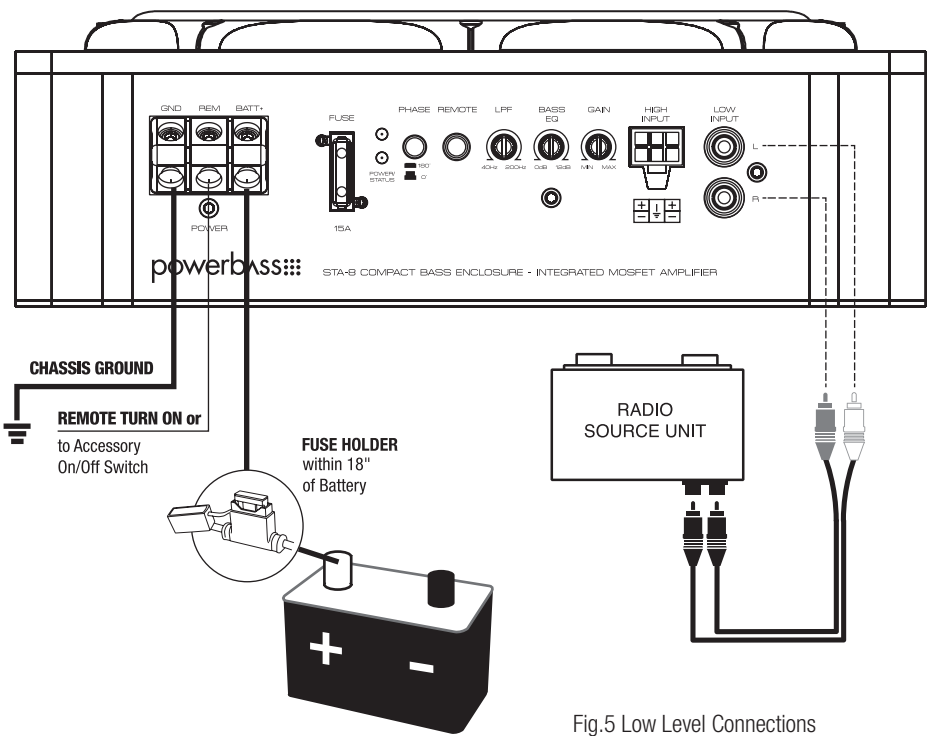

Fig.5 Low Level Connections
**Low Level Input and RCA Interconnect Wiring (fig 5)**